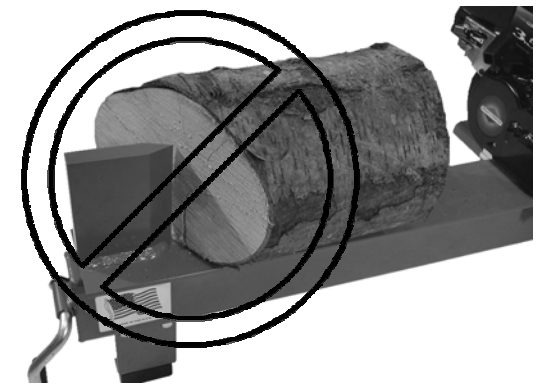

Figure 26
4. Make sure both ends of the log you are splitting are cut as square as possible. This will prevent the log from sliding out of position while under pressure. All logs should be no longer than 18" (Figure 26).